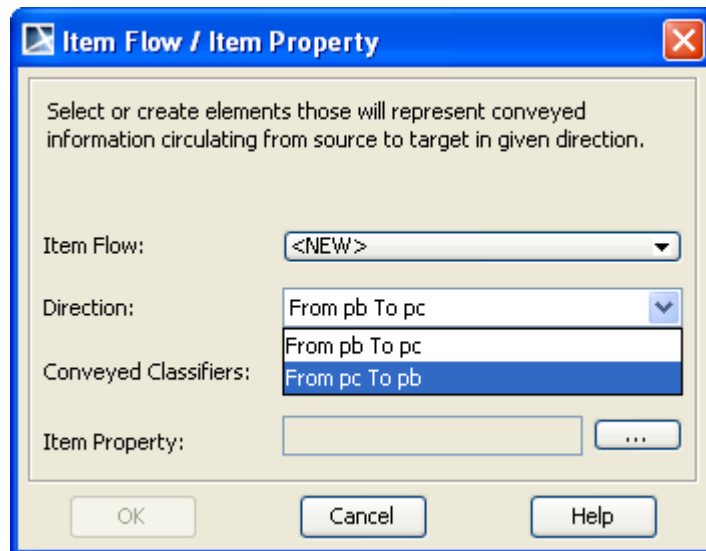

Figure 110 -- Item Flow / Item Property Dialog - Direction Selection
5. In the Item Flow / Item Property dialog, you can also choose the direction of the Item Flow from the Direction drop-down menu (Figure 110).